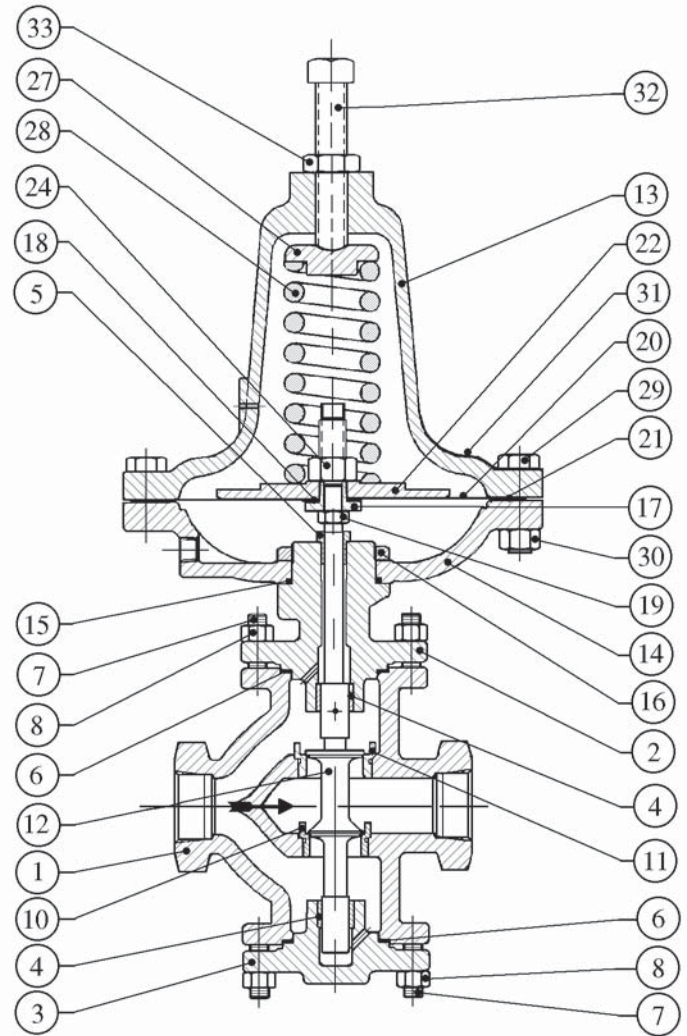

Figure 1: Standard Model 8311HP/LP
12. Fully thread stem lock nut (19) and pusher plate (17) on end of plug and stem assembly (12). Refer to Figure 1 for correct orientation of the pusher plate (17).
13. Calibrate diaphragm (20) setting and correct plug and stem assembly (12) travel as follows:
- a) Hand press plug and stem assembly (12) tight into the seats (10 and 11).
- b) Adjust the pusher plate (17) so that the gasket surface face of the pusher plate (17) is flush with the top of the diaphragm case (14) flange.
- c) Draw the stem lock nut (19) up tight against the pusher plate (17) by holding "flats" milled on pusher plate (17).
14. Grasp threaded end of plug and stem assembly (12) by hand and ensure that the assembly moves freely by lifting the plug and stem assembly (12) in and out of the seats (10 and 11), making sure it does not "stick". If it does not move freely, rotate plug and stem assembly (12) CW until new position is found which allows optimum "free vertical movement" in and out of seats.
15. Proceed with diaphragm (20) assembly instructions in accordance with Section IV.B., steps 10 through 18. **NOTE:** Do not rotate plug and stem assembly (12) from optimum "free vertical movement" position during final assembly.
16. If necessary, remove bottom flange (3) bolting (7) (8). Clean cavity. Examine lower guide bushing for wear. Replace bottom bonnet if lower guide bushing is worn or damaged.
17. Replace bottom flange (3) on body (1) and re-install bolting(7)(8). Mechanically tighten nuts (8) in alternating crossing pattern that allows bottom flange (3) to be brought up evenly. Refer to Step 11. for recommended torques.